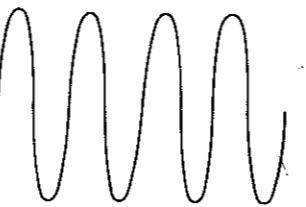

FIG. 28. A 4-cycle sine-wave trace.
- Adjust the Fine Frequency control until you have a pattern consisting of four complete sine-wave cycles, as shown in Fig. 28. The four cycles show that the horizontal sweep generator is operating at  $\frac{1}{4}$  the frequency of the observed signal. The 1-volt peak-to-peak signal being applied is a 60-cycle signal, so the horizontal frequency is 60 divided by 4, or 15 cycles per second.